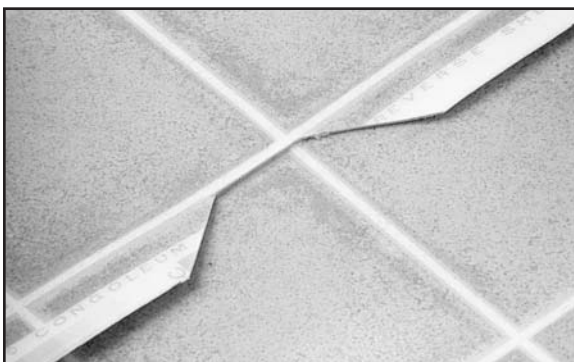

Fig. 18. Cut notch every 6' (1.8 meters) in selvage.
- One method for determining the correct width is to make a notch in the selvage approximately every 6' (1.8 meters) as illustrated in Figure 18. The notch should be made no deeper into the selvage than the outer edge of the mortar joint or line. The notch will then allow for a visual alignment. Use this method of determining width of mortar and grout joints only if you will be seaming in the middle of the embossed area (most designs).